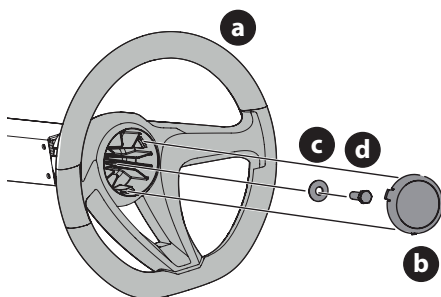

Figure 7
1. Remove the hardware from attaching the steering wheel (a) from beneath the steering wheel cover (b). Carefully remove the cover by inserting a small, bladed screwdriver into one of the three snap locations and slowly prying up on the steering wheel cover (b) to remove the hardware (Figure 7).
2. With the wheels of the machine pointing straight forward, place the steering wheel (a) over the steering shaft. (Figure 7).
3. Place the Belleville washer (c) with the cupped side facing inward over the steering wheel and secure with the hex lock screw (d) (Figure 7).
4. Place the steering wheel cover (b) over the center of the steering wheel (a), align the three snaps with the tabs in the steering wheel and push downward until it "clicks" into place (Figure 7).